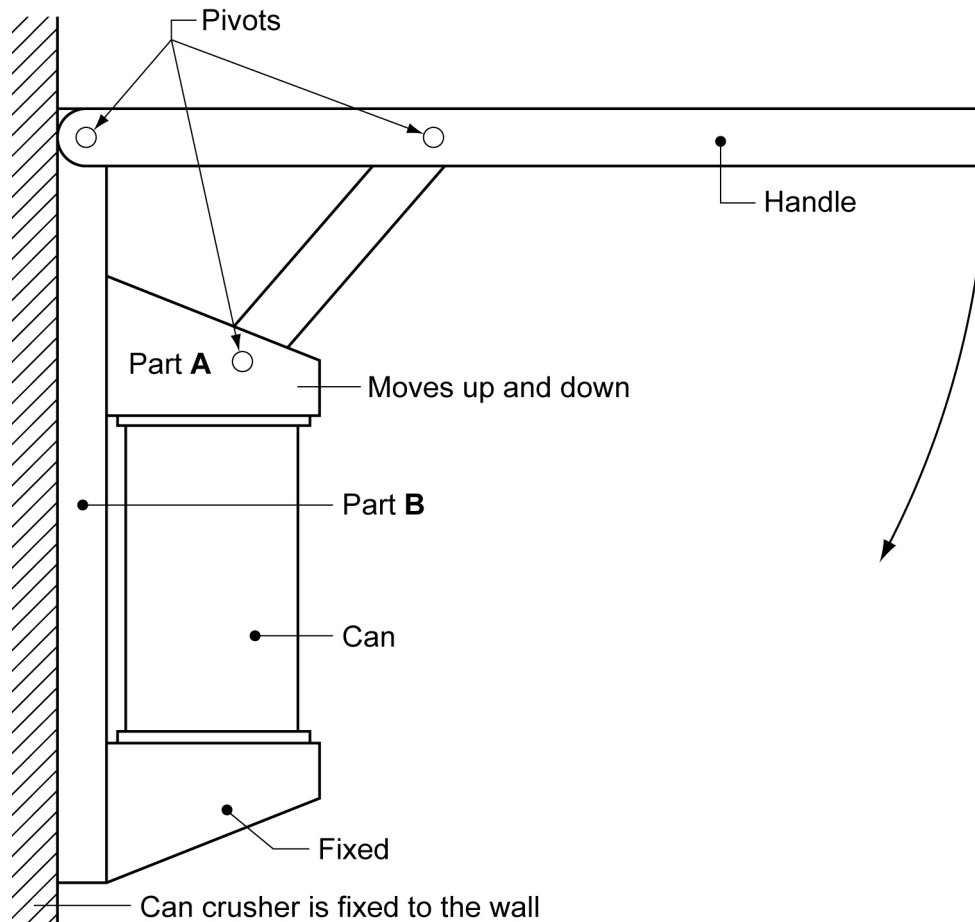

Fig. 7
- 7 Fig. 7 shows an initial idea for a can crusher.
- (i) the parts of the can crusher to pivot at the points indicated on Fig. 7, full details must be given about the joining method to be used; [16]